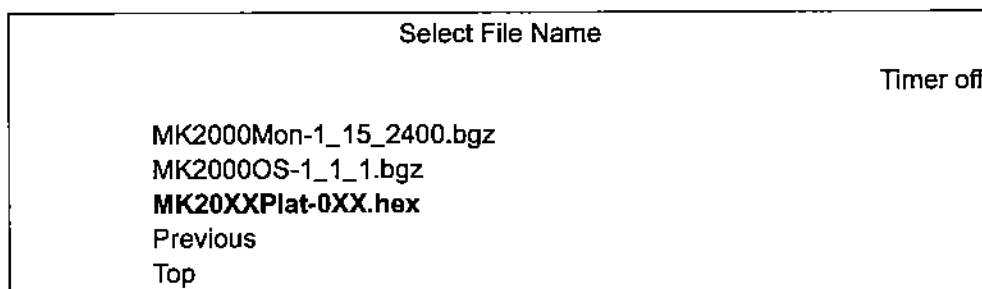

Figure F-15. Select File Name Menu
5. **Select the Platform Upgrade File** - see Figure F-15. The *Select File Name* menu is displayed. Use the **A** button (Down), to highlight MK20XXPlat-0XX.hex and select using the **C** button (Select/Action).